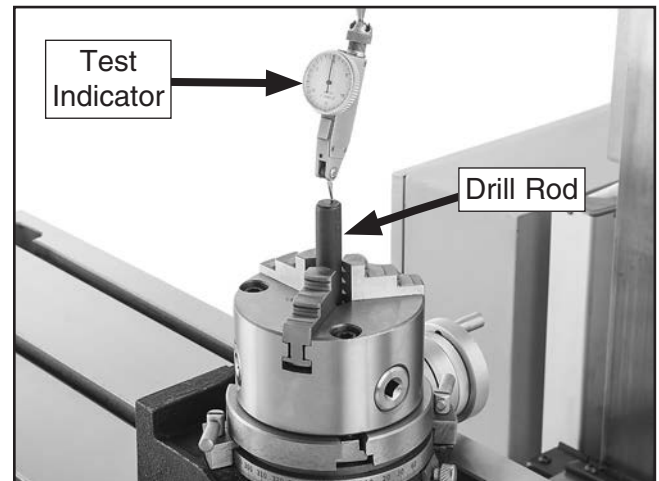

Figure 19. Example of horizontally aligning chuck.
1. Mount a precision mandrel or quality drill rod in chuck, as shown in **Figure 19**.
2. Mount test indicator in mill spindle, then indicate outside of precision mandrel or drill rod, as shown in **Figure 19**.